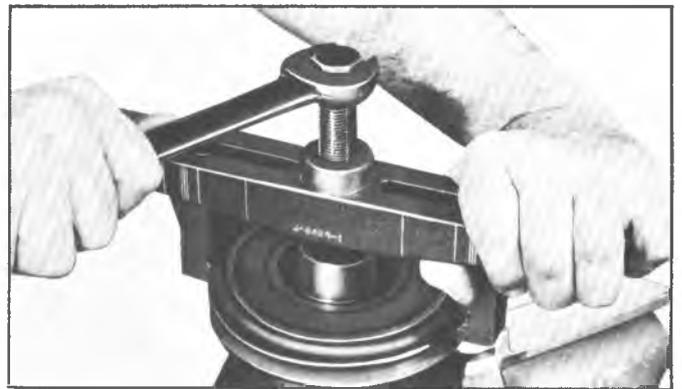

Fig. 7--Removing Pulley
4. Place Puller Pilot J-9395 over the compressor shaft and pull off the pulley assembly using J-8433 pulley puller (fig. 7).